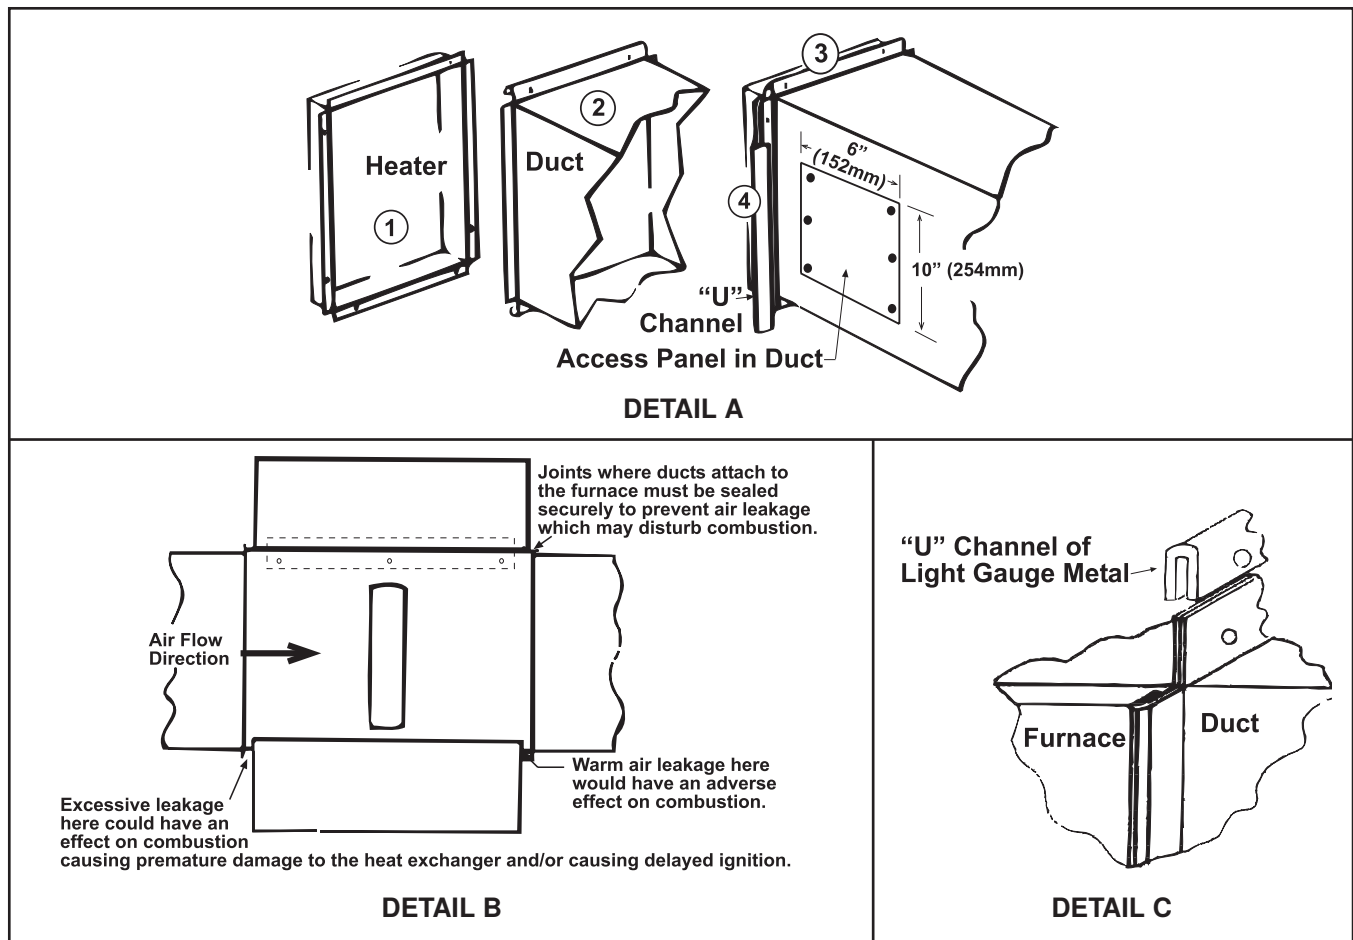

Figure 25. Connecting Ductwork to Furnace
See Figure 25, DETAIL A for numbers that refer to the following steps to connect the ductwork to the furnace:
- To prevent leakage, ensure that duct joints are sealed as shown in Figure 25, DETAIL B.
- The seals between the furnace and the duct must be mechanical U-channels as shown in Figure 25, DETAIL C.